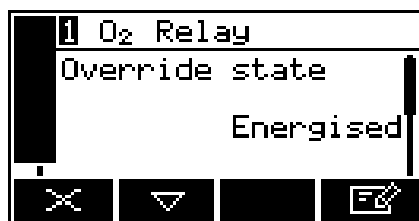

Figure 39 - The relay override state screen
2. Figure 39 shows the relay state (energised or de-energised) that the relay signals outputs will be set to when the override is active. Edit if required.